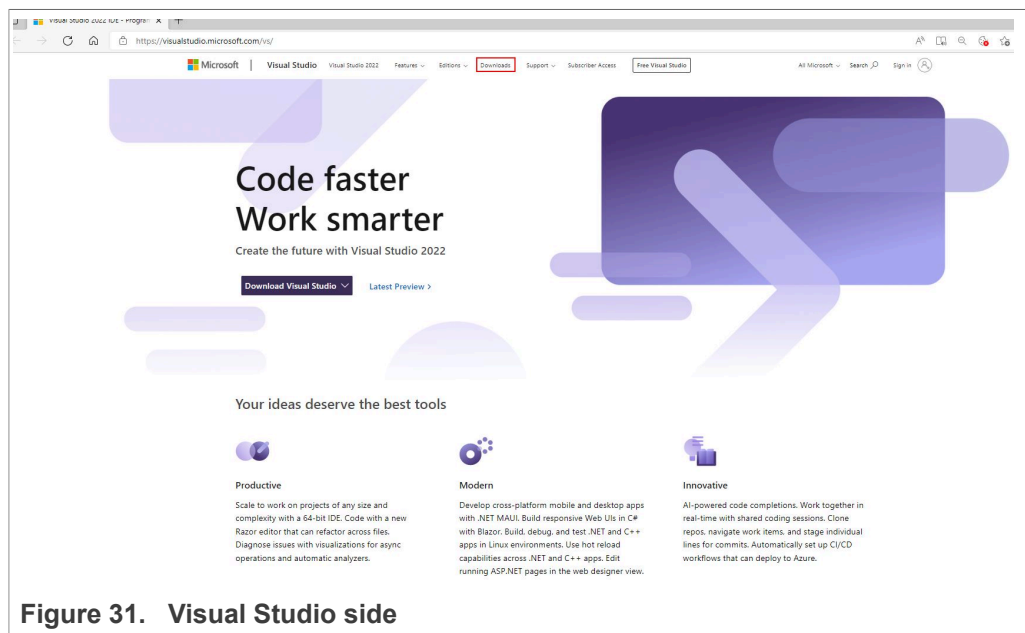
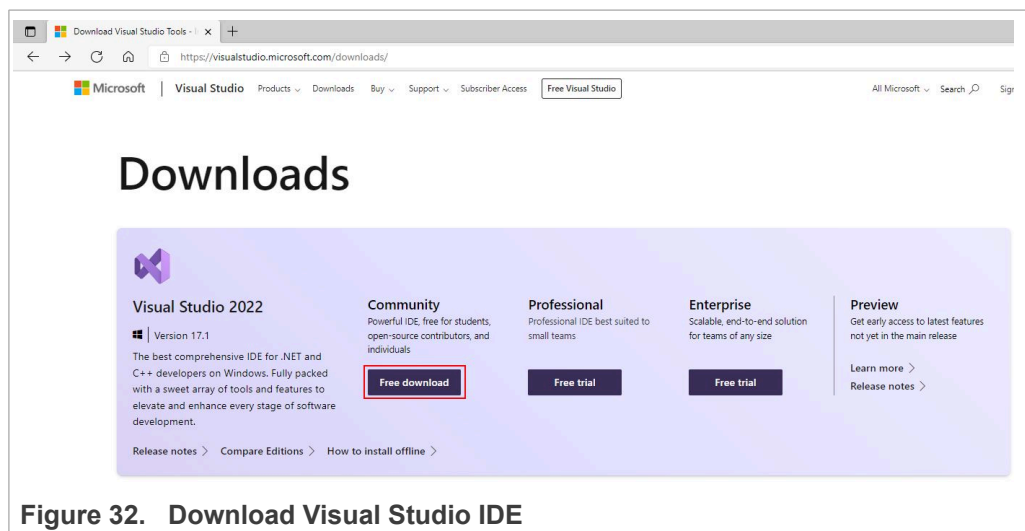

Figure 31. Visual Studio side
Figure 32. Download Visual Studio IDE
2. Select (1) **Download** and click on **Community 2022** in the *Download Visual Studio* button as shown in Figure 31 and Figure 32: